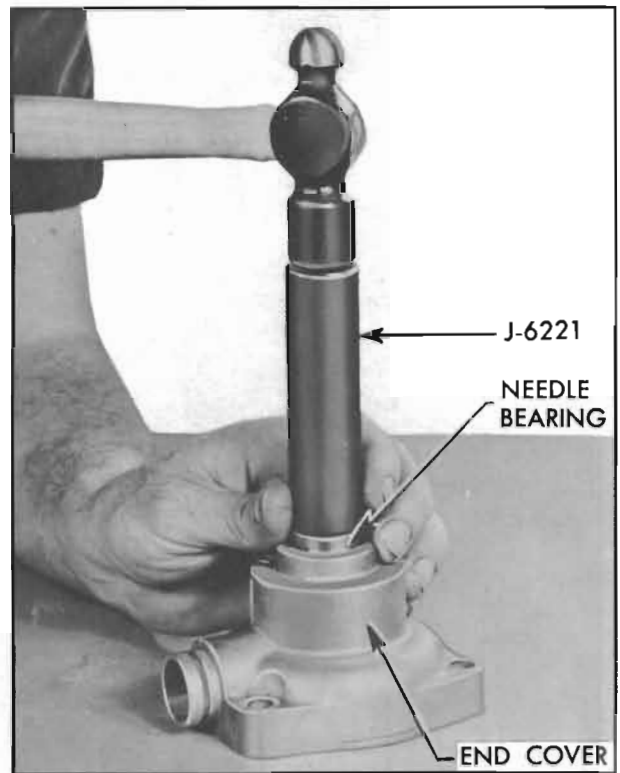

Figure 8-29—Installing End Cover Needle Bearing
7. Inspect the end cover for wear in the actuator lever bore. If badly worn, replace the end cover. Inspect the end cover needle bearing. If needles are pitted or worn, replace the bearing. To remove the bearing, use Remover and Replacer J 6221 and drive the bearing out. To install the bearing use Remover and Replacer J. 6221 with the identification marks of bearing against shoulder of tool. Drive the bearing flush with outer end of the cover. See Figure 8-29. Pack bearing with chassis grease after installing in end cover.